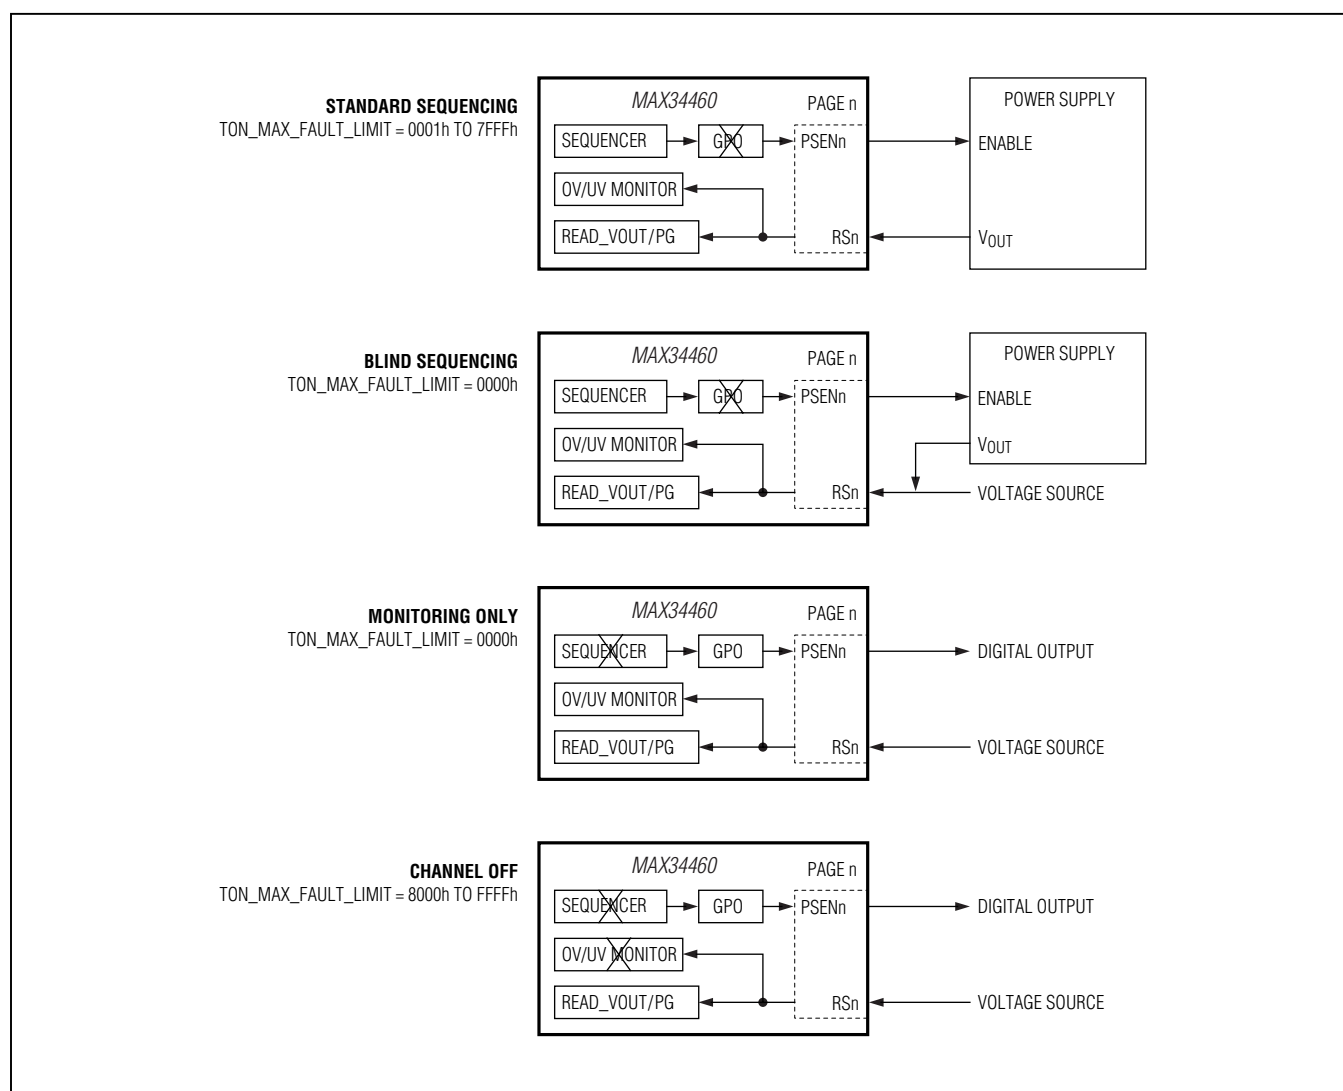

Figure 5. Sequencing Configurations
**Note 2:** See Figure 5 for example hardware configurations.